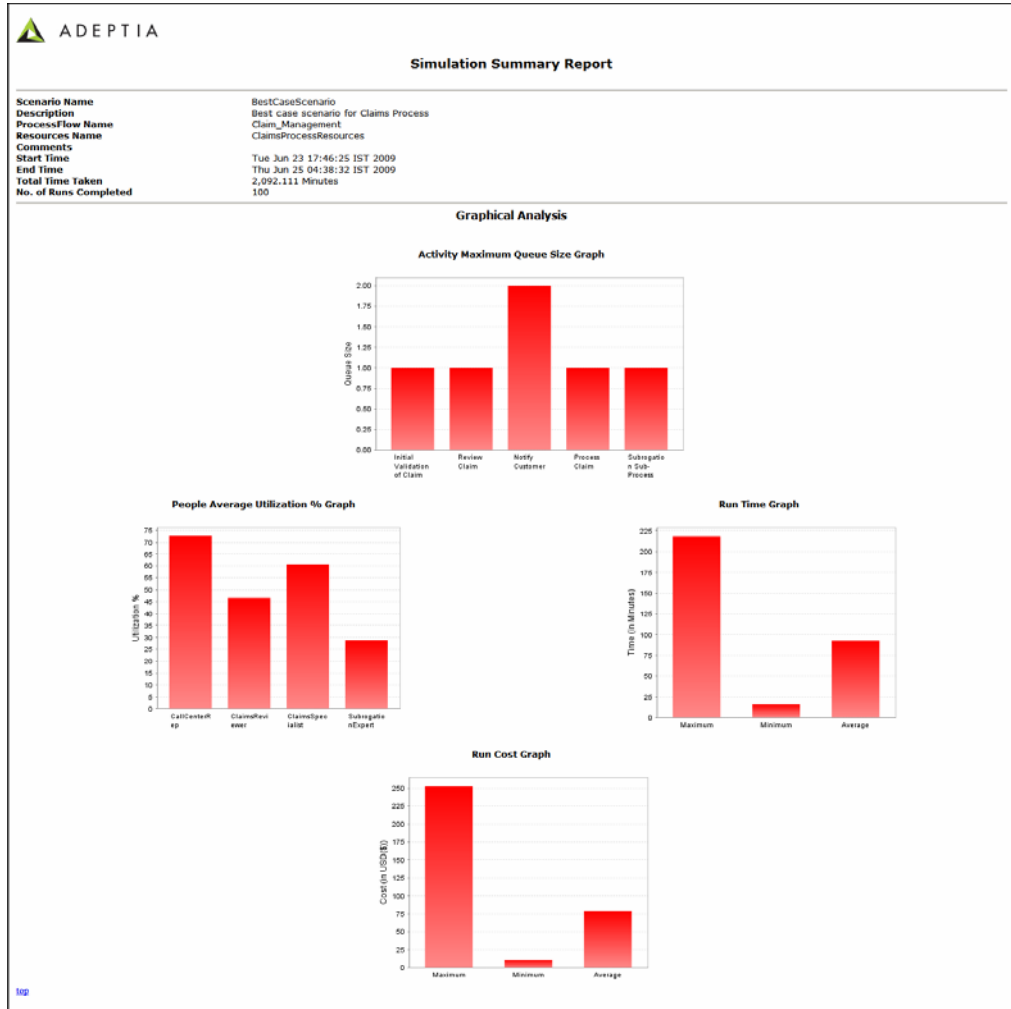

Figure 10.19: Simulation Summary Report (Graphical Analysis)
1. To generate the simulation report, click **Generate Simulation Summary Report** () button from the tool bar. The report is generated in the HTML form and shown in your browser. Figure 10.19 shows the *Simulation Summary* and *Graphical Analysis* report.